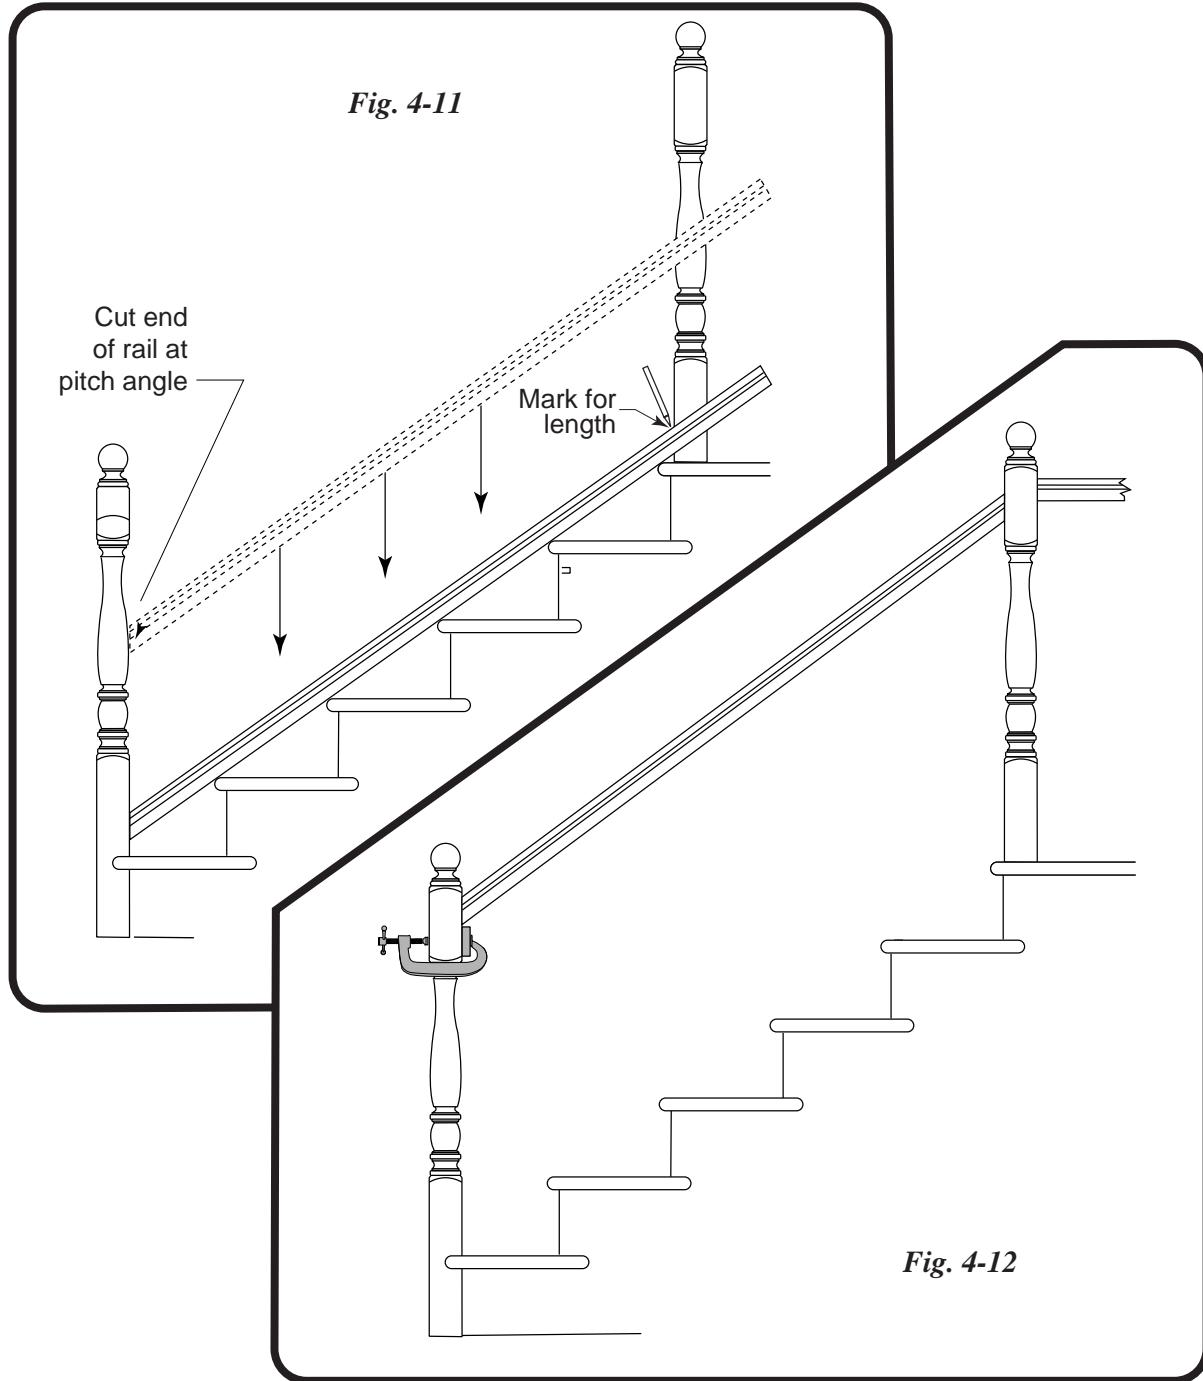

Fig. 4-12
5. Clamp a block below the mark. Note Fig. 4-12 on previous page.